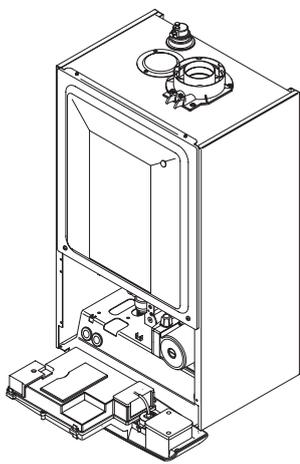

Fig. 2
1. Ensure that the electrical supply to the boiler is isolated. Undo the screws securing the facia and lift off the front panel. Allow the facia to drop down (Fig. 2).